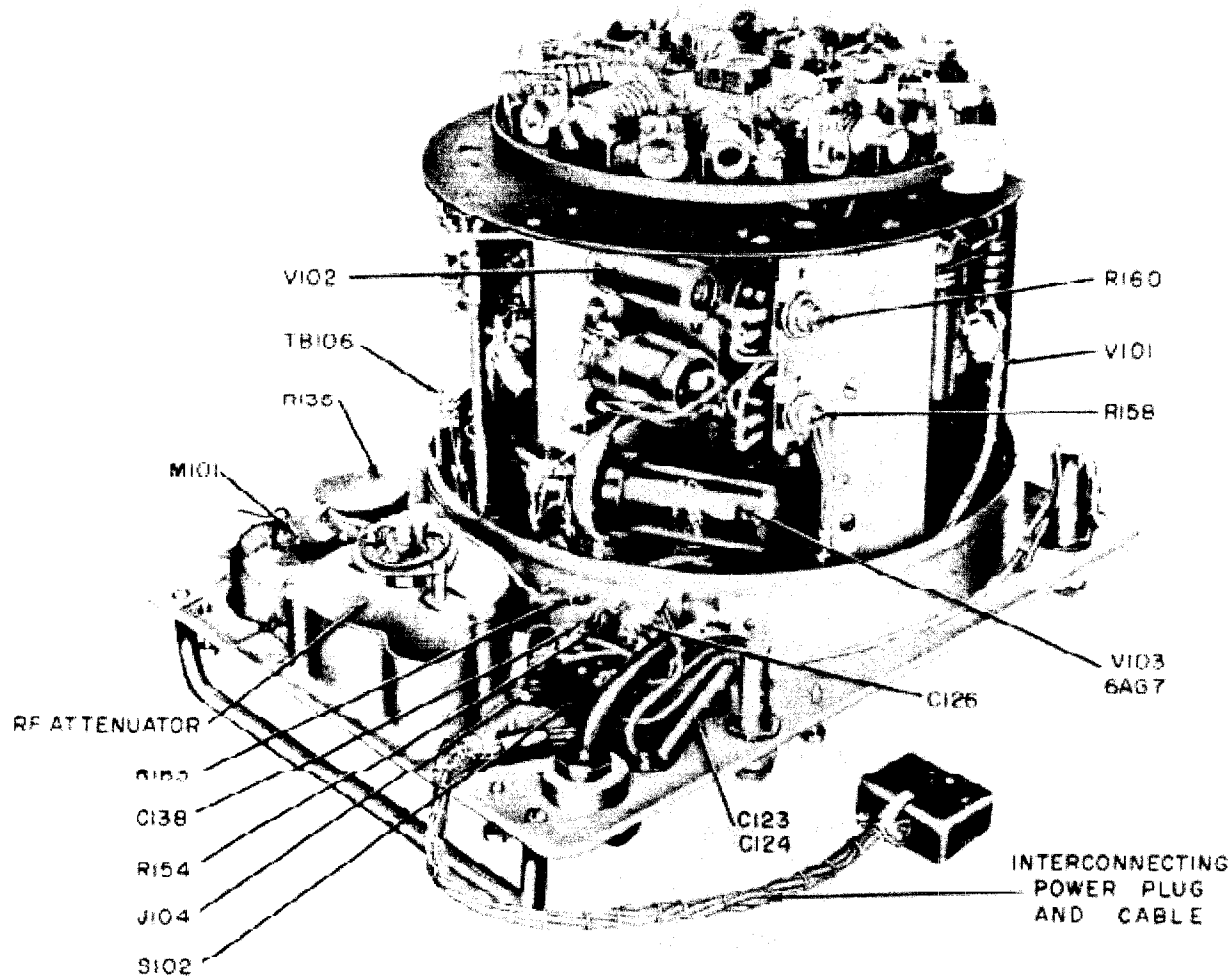

Figure 7-8. Bridge Assembly Components
- (1) Reassemble the bridge assembly in reverse order of disassembly.
- (2) Check cam switch for operation. See that cam operates switch S101 on the three lowest frequency bands (10 kilocycles to 220 kilocycles).
- (3) When tightening the coupling on the frequency control shaft, follow the procedure in section 7-13, paragraphs *b* (4) through *b* (11).
**18. RF METERING CALIBRATION.** (See figure 7-8.)
**19. PERCENT MODULATION METER CALIBRATION.** (See figure 7-8.)